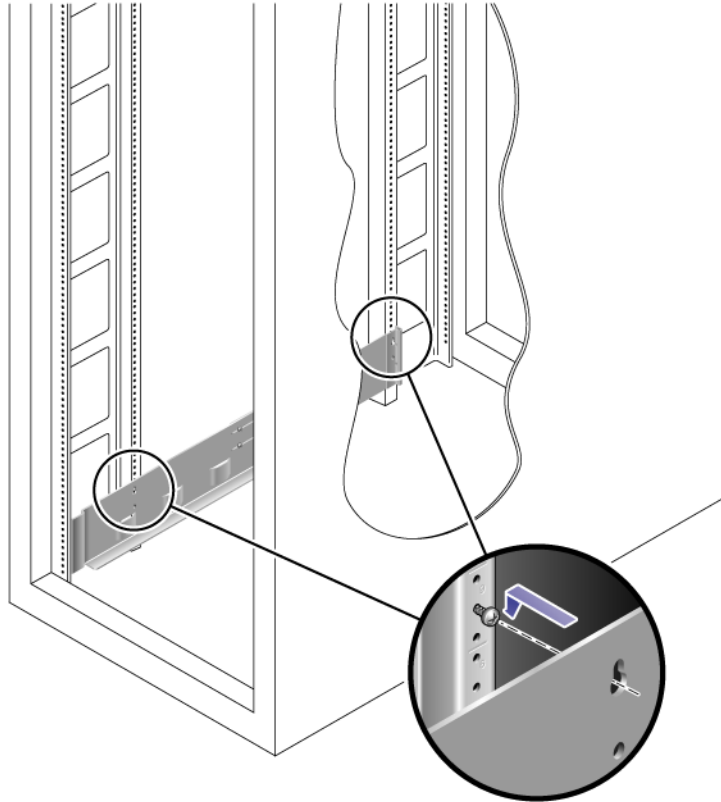

FIGURE 2-21 Hanging the Rail
2. Hang the rail by aligning the large slots of the rail over the front and back screws and then pulling the rail down so that each screw is at the top of the slot (FIGURE 2-21).